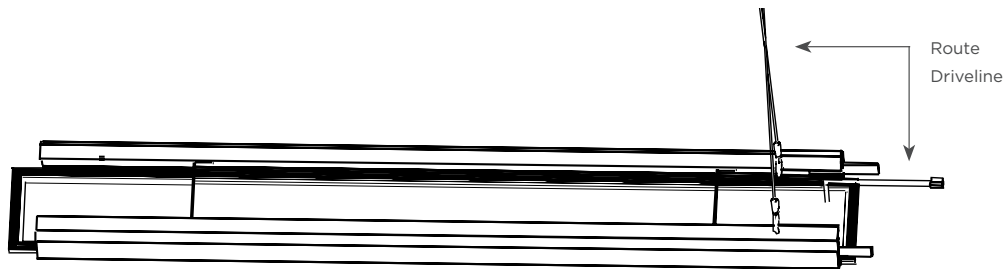

Figure 7
- 12 Route the TILT® Driveline from the remote TILT® Driver down the HK02 cable to the last panel in the driver's circuit as shown in figure 7. This could be 1-4 light panels per driver depending on the wattage of the driver.